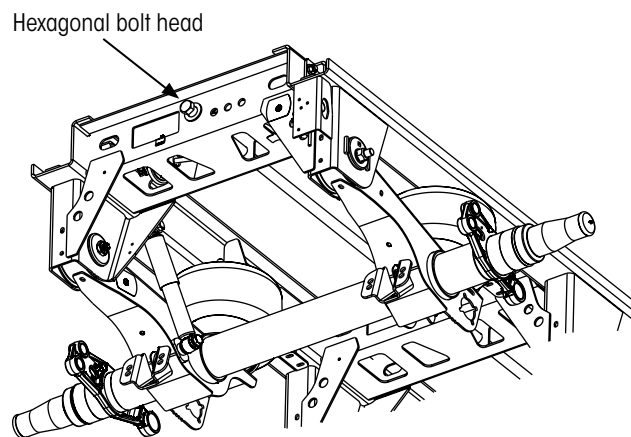

Figure 18: Hexagonal bolt head location
Just as QUIK-DRAW uses an air actuator to retract locking pins, it uses coil springs to extend them. These coil springs (Figure 18, on page 14) apply a constant outward force on the locking pins, causing them to stay fully extended and in position through the positioning holes in the web of the trailer I-beams. The coil springs force the locking pins to remain engaged, even if an air actuator malfunction occurs.
2. Look under the trailer at the front of the platform slider frame and locate the hexagonal bolt head on the end of the pipe weldment (Figure 18).